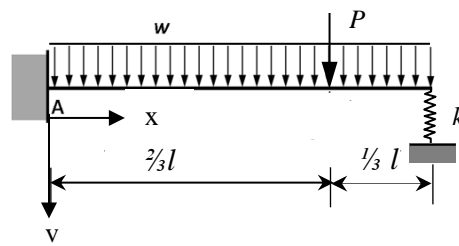

Figure 4
- (b) **Figure 4** shows a cantilever beam with length l subjected to a uniformly distributed load of intensity w and a vertical point load P at a distance of $\frac{2}{3}l$ from the fixed support. One linear spring with spring constant k is attached to the free end. The following expression for lateral displacement field v has been suggested: